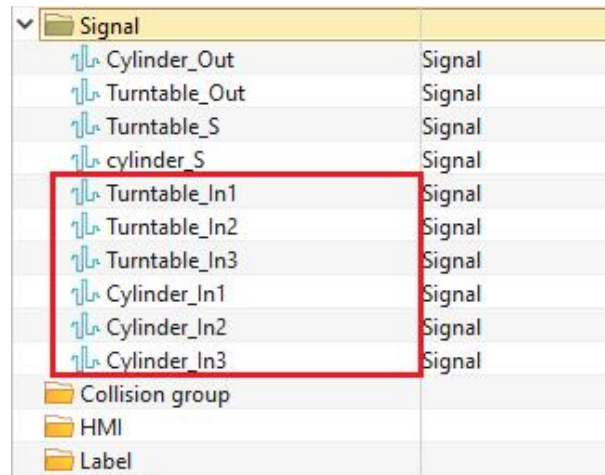

Figure 13-33: Six signal
- Create input signals for both "Turntable" and "Cylinder".(Figure 13-33)